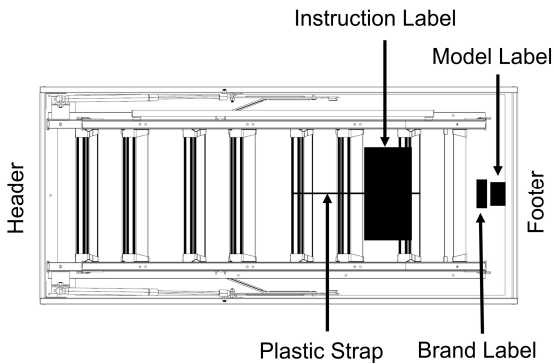

FIGURE 1: ATTIC LADDER LABEL LOCATIONS
10. Before installation, read all the instruction labels on the attic ladder shown in **Figure 1**.